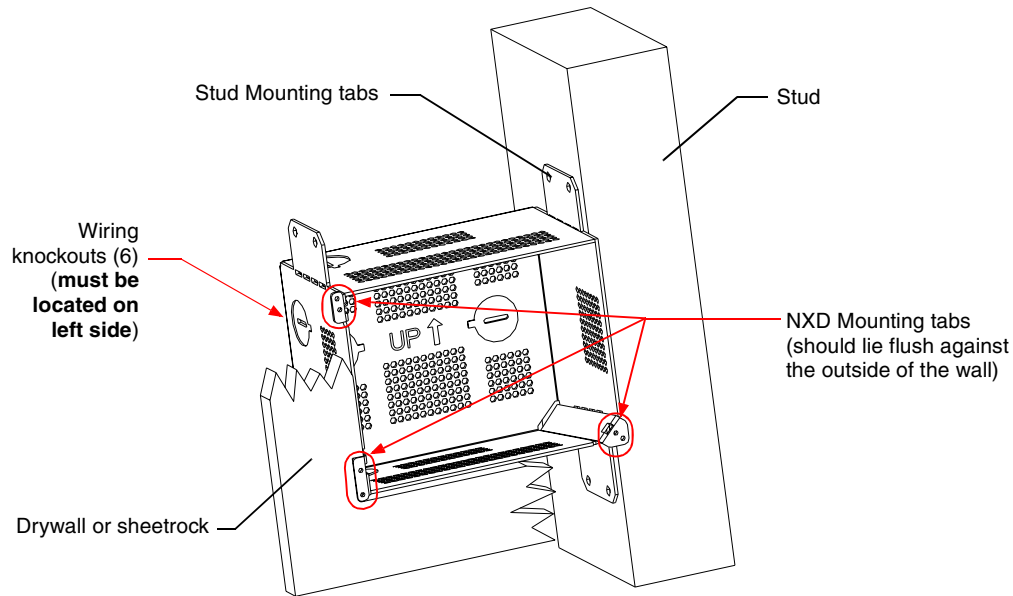

FIG. 17 CB-TP5 rough-in box components
The CB-TP5 is an optional metallic box that is secured onto a stud/beam in a **pre-wall** setting (*where no walls are present*). Installation procedures and configurations can vary depending on the installation environment. This section describes the installation procedures for the most common installation scenario. The most important thing to remember when mounting this rough-in box is that the NXD-CV5 Mounting Tabs must lie flush against the outside of the sheetrock (FIG. 17).
2. Fasten the CB-TP5 rough-in box to the stud through the holes on the right Stud Mounting tabs (FIG. 17), using either nails or screws.
3. Remove the wiring knockouts from the left side of the rough-in box (CB-TP5) (FIG. 17) to accommodate the cables being threaded through to the NXD touch panel.